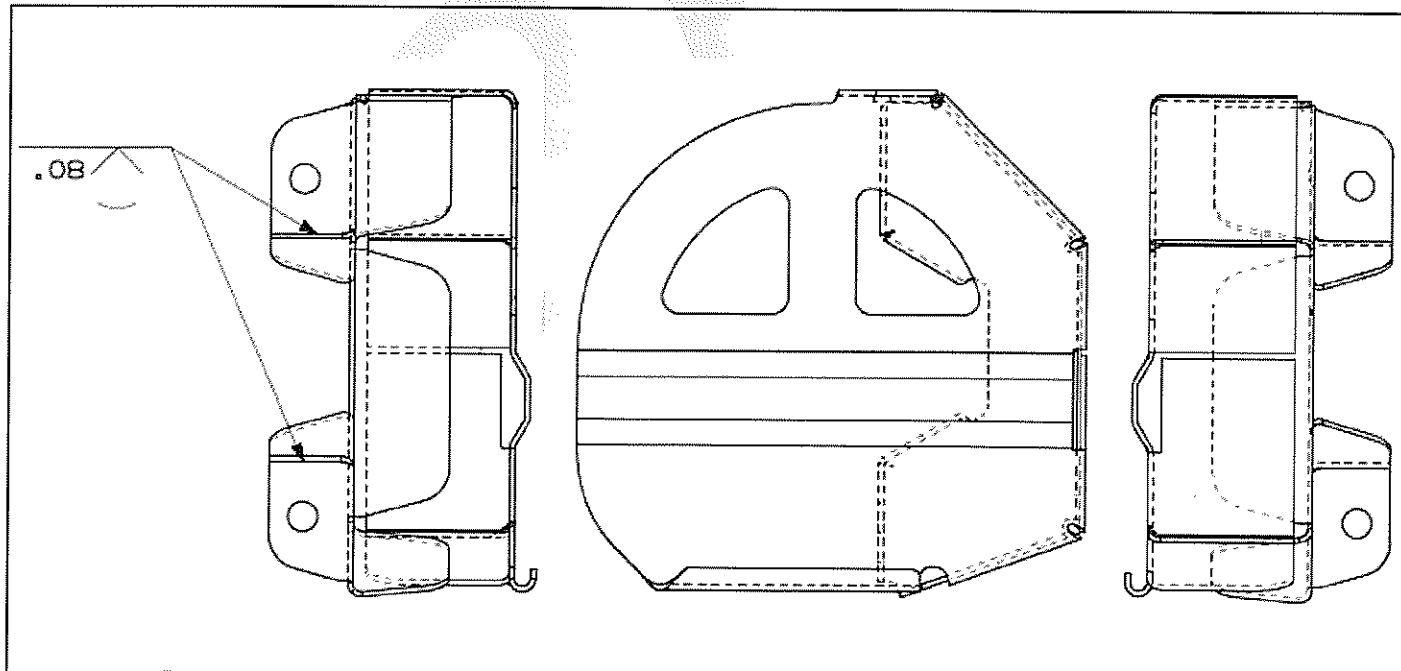

Figure 2.
4. Visually inspect the fan belt idler pulley cover for the two (2) welds shown in Figure 2
If the two (2) welds shown in Figure 2 are on the fan belt idler pulley cover, no further action is required. Close the engine door. Fill out the attached verification form and submit to MCI's warranty department.
If the two (2) welds shown in Figure 2 are not on the fan belt idler pulley cover, proceed to Step 5.